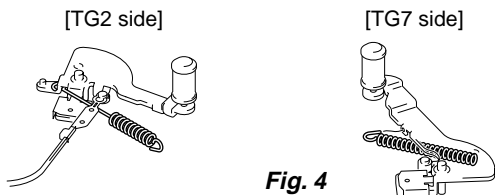
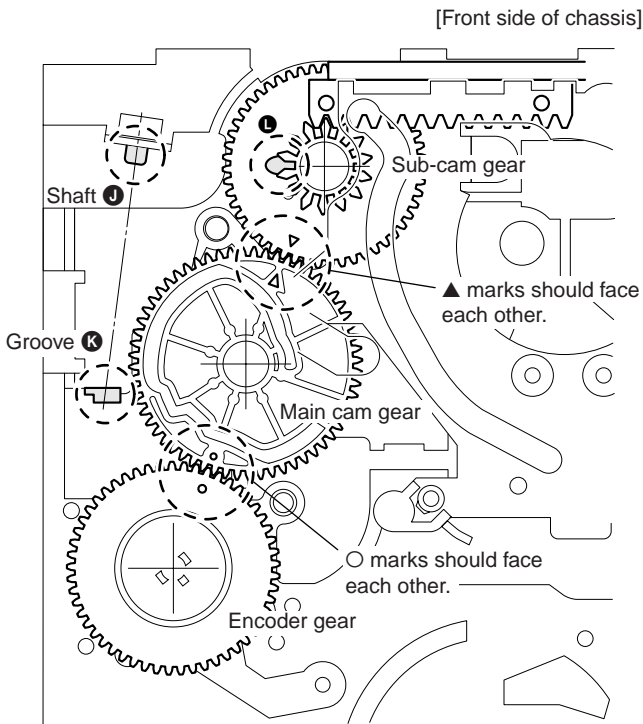

Fig. 4
Fig. 8
④ Apply grease to the fixing block (shaft **J** and U-shaped groove **K**) of the coupling gear and portion **L** of the sub-cam gear (half size of one grain of rice for each part). (Fig. 8)
⑥ Attach the main cam gear while being careful of the directions of the front and rear sides. Also, take care of the phase adjustment to the sub-cam gear. (Fig. 8, 11, 12)
Adjust the phases (marked) to those of the main cam gear. (Fig. 4/Fig. 8)